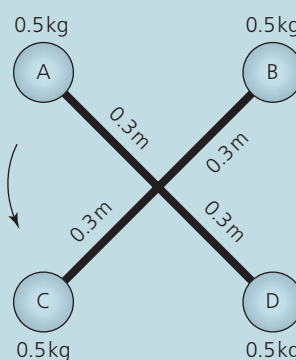

Figure 8
- What is the total moment of inertia if the structure is spun as shown in Figure 8?